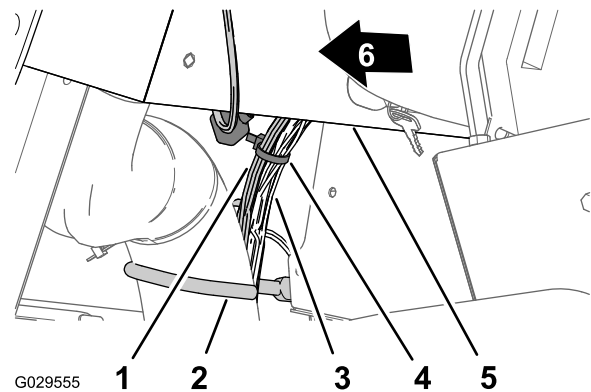

Figure 16
5. Adjacent to the cable and hose hook, secure the 240 cm (94-1/2 inch)—dash-panel branch to the wiring harness for the machine with a cable tie (Figure 16).